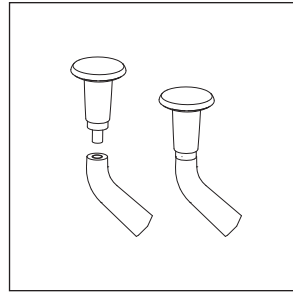

Figure 6
4. Attach glides and/or casters to the bases (Figures 6 & 7) and follow the guidelines below.
Insert glides. To achieve the standard pin heights (and the same height as with casters), turn the glides in until $\frac{1}{2}$ " of the telescoping sleeve is exposed (Figure 6).
Insert glides and casters as previously described. The glides should be located towards the front edge of the monitor stand (Figure 6).